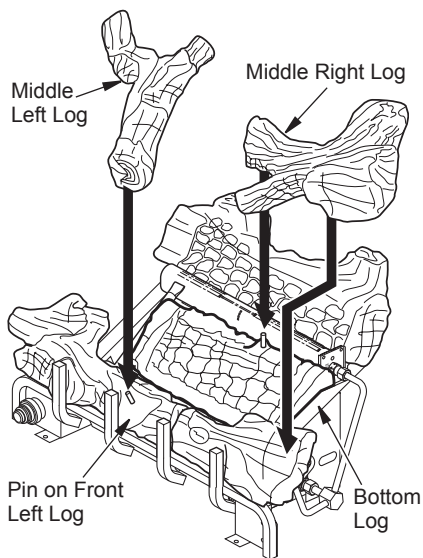

Figure 30 - Installing Log Sets
5. Place middle right log over front right and bottom logs as shown in Figure 30. Be sure hole in middle right log seats over pin in bottom log.
6. Place middle left log over front left and bottom logs as show in Figure 30. Be sure hole in middle left log seats over pin in front left log.